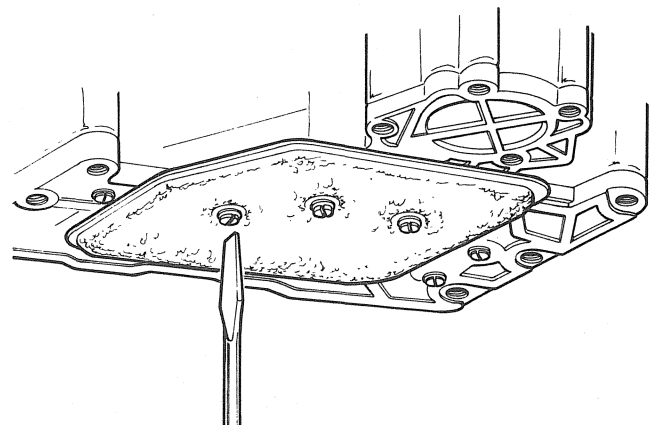

Fig. B-24 Removing Automatic Transmission Filter
- (1) Remove transmission pan screws, pan, and gasket.
- (2) Remove and discard oil filter (fig. B-24).
- (3) Remove and discard O-ring seal from pick-up pipe.
- (4) Install new O-ring seal on pick-up pipe and install strainer and pipe assembly.
- (5) Clean pan thoroughly and position new gasket on pan. Use petroleum jelly, or equivalent, to position gasket.
- (6) Install pan. Secure with attaching screws and tighten to 10 to 13 foot-pounds (14 to 18 N•m) torque.
- (7) Pour approximately 5 quarts (4.71 liters) of Dexron® or Dexron II® automatic transmission fluid into filler pipe. Be sure container spout, funnel, or other items in contact with fluid are clean.
- (8) Start engine and allow it to idle a few minutes.
- (9) Apply brake pedal and parking brake. Shift transmission into all positions then place the selector lever in N (Neutral).
- (10) With transmission at operating temperature, check fluid level. Add fluid, if necessary, to bring level to FULL mark.